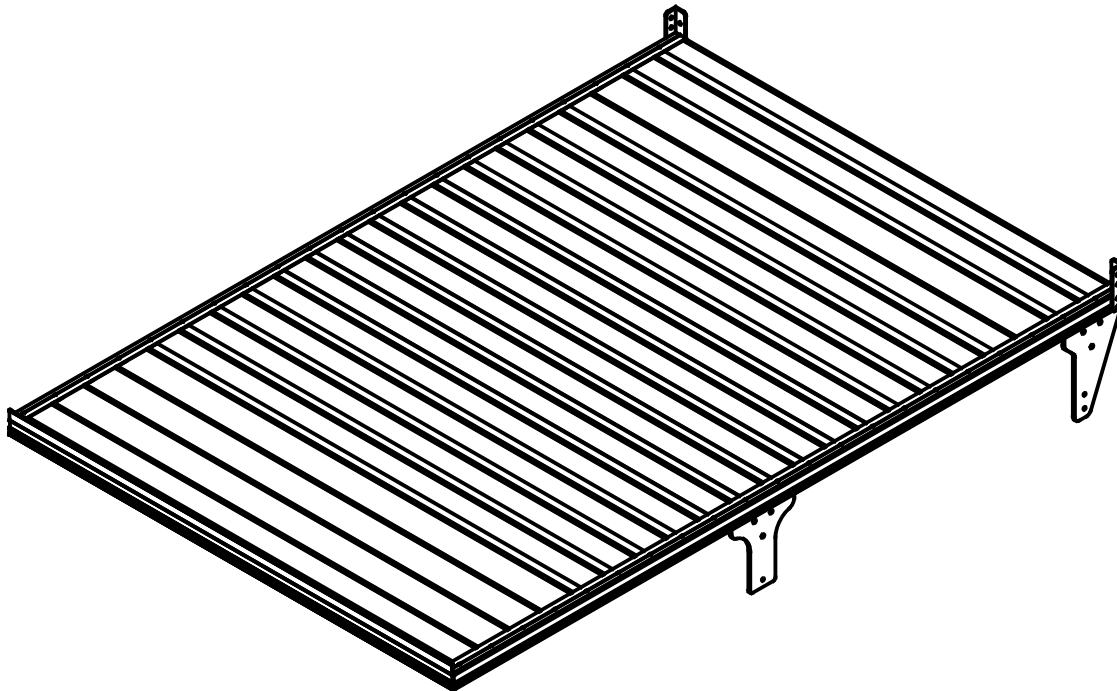

Figure 5 Common Cargo Tray
7. The frame of the cargo tray (Figure. 5) is constructed of aluminium (6063 series) components and consists of: two side coamings, end coamings and flooring. The side and end coamings are secured with angle brackets to form a rectangular shape. The flooring is mounted within the frame. Two rails, under the flooring, provide the support for the under tray stowage module.